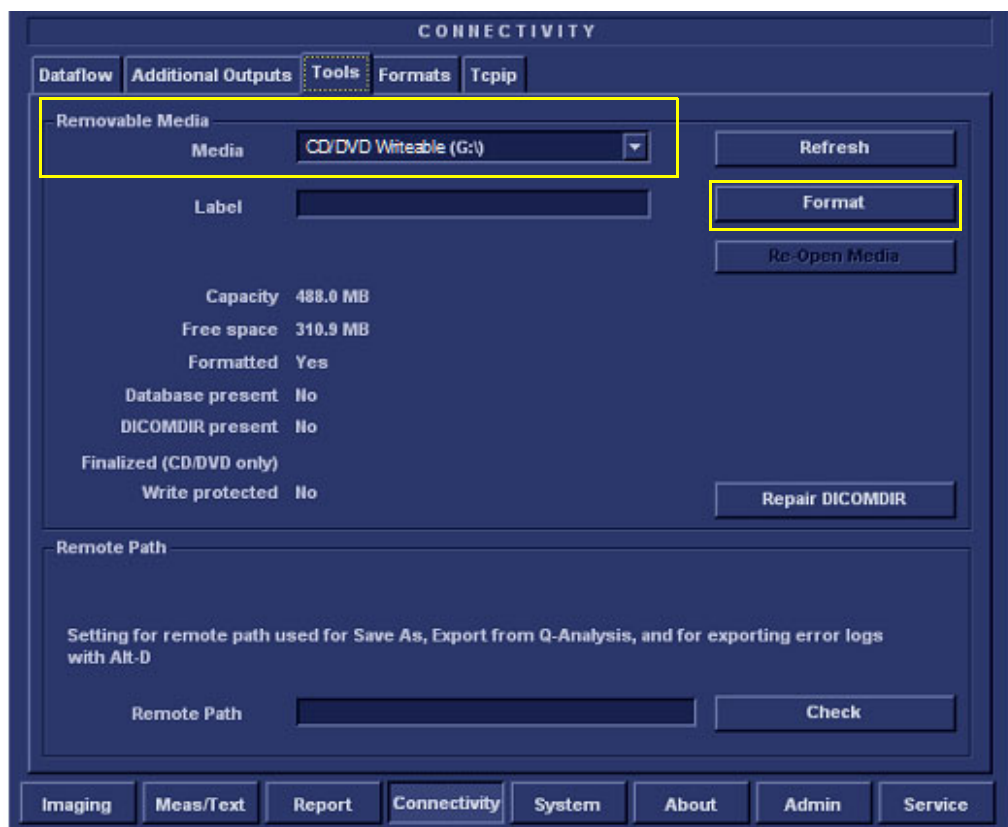

Figure 7-147 Connectivity - Tools - Removable Media
- 5.) Under *Removable Media*, select the media type **CD/DVD Writeable** from the Media drop-down menu, as shown in Figure 7-147.